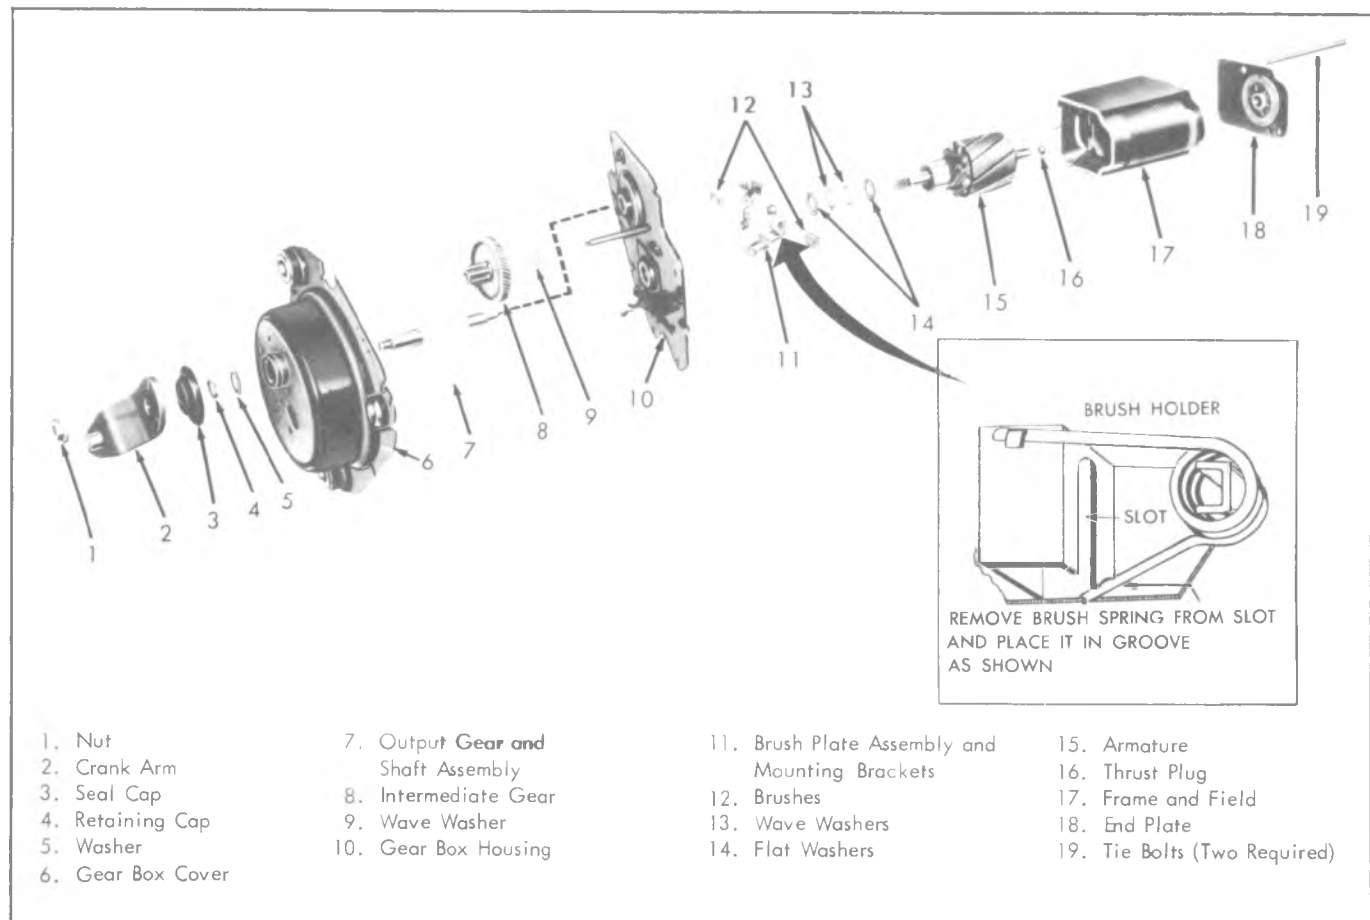

Fig. 8-43-Wiper Motor and Gear Box Assembly
Disassembly (Fig. 8-43)
3. Remove brush spring tension (fig. 8-43), slide armature and end plate from motor frame. Pull end plate from armature.
Refer to Figure 8-43 for exploded view of motor and gear train.